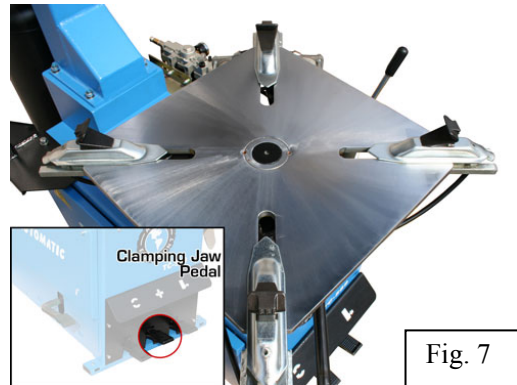

Fig. 7
1. Position the four jaws by depressing the jaw clamping pedal (Fig. 7) halfway down.